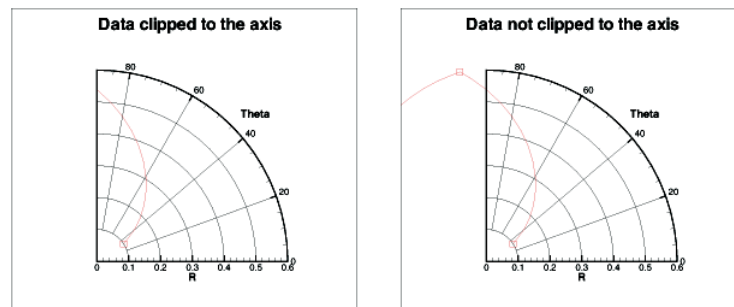

Figure 17-5. An example of clipping polar data to an axis.
- **Clip Data to Axes** - For Polar Line plots, it is possible to have data that extends beyond the edges of the axes. Use this feature to eliminate data drawn outside of the range of the axes. Clipping data can be set independently for each axis. To activate or deactivate clipping, toggle “Clip Data to Axis” on or off. This feature is illustrated in Figure 17-5.